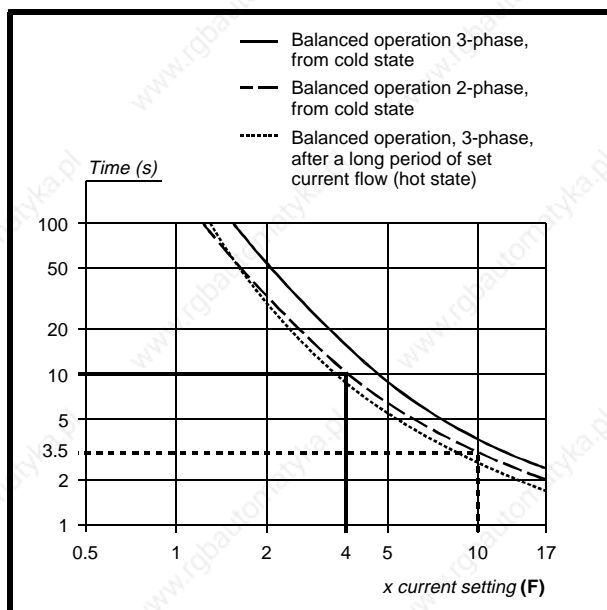

Figure 5-10 Example tripping curves for the Telemecanique thermal overload relays type LR2-Dx3xx
- Use the *tripping curves* for the thermal overload relay in order to find the overload factor (F) that will cause the relay to trip after 10 seconds. See Figure 5-10.